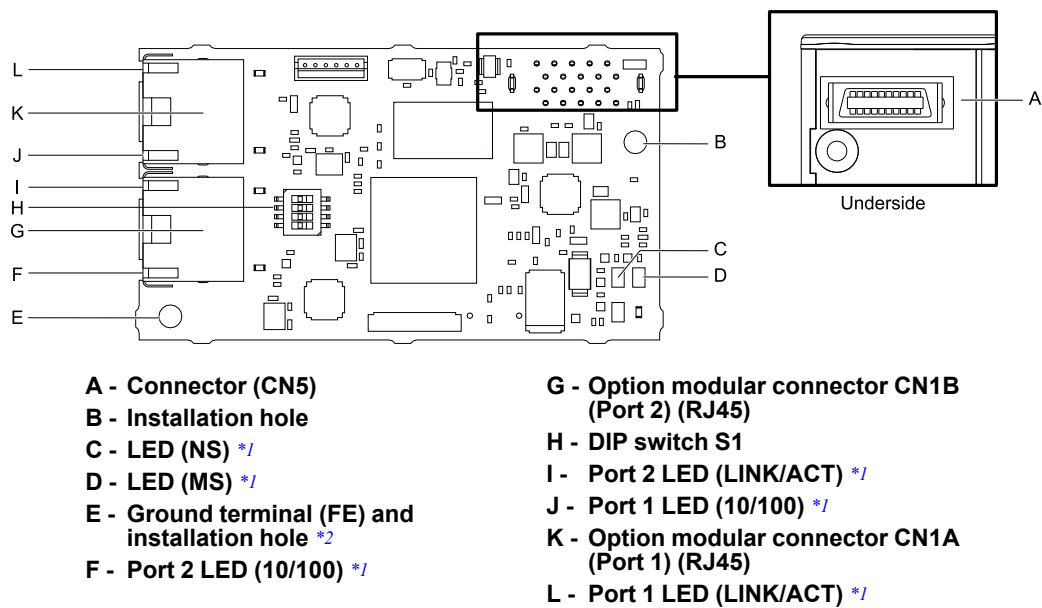

Figure 4.1 Option PCB Components
- Make sure that the model number on the option nameplate and the model number on the purchase order are the same. Refer to Figure 4.1 for more information.